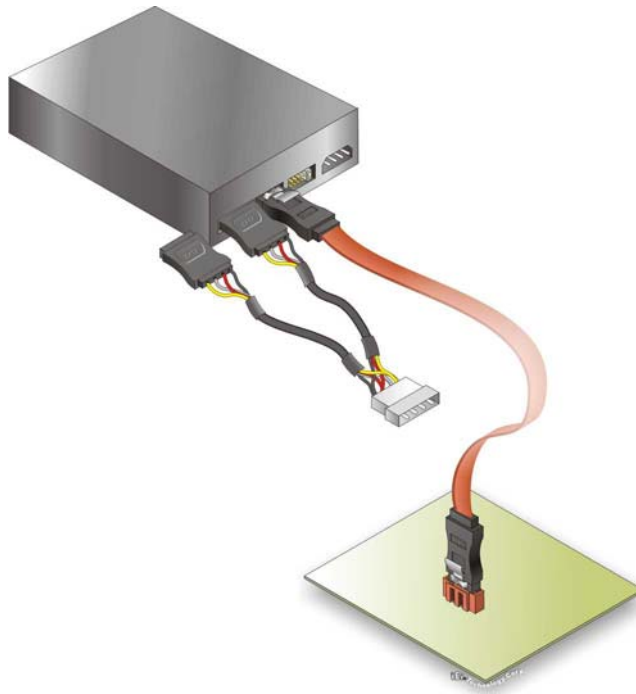

Figure 4-15: SATA Power Drive Connection
Step 3: Connect the cable to the SATA disk. Connect the connector on the other end of the cable to the connector at the back of the SATA drive. See **Figure 4-15**.
Step 4: Connect the SATA power cable (optional). Connect the SATA power connector to the back of the SATA drive. See **Figure 4-15**.